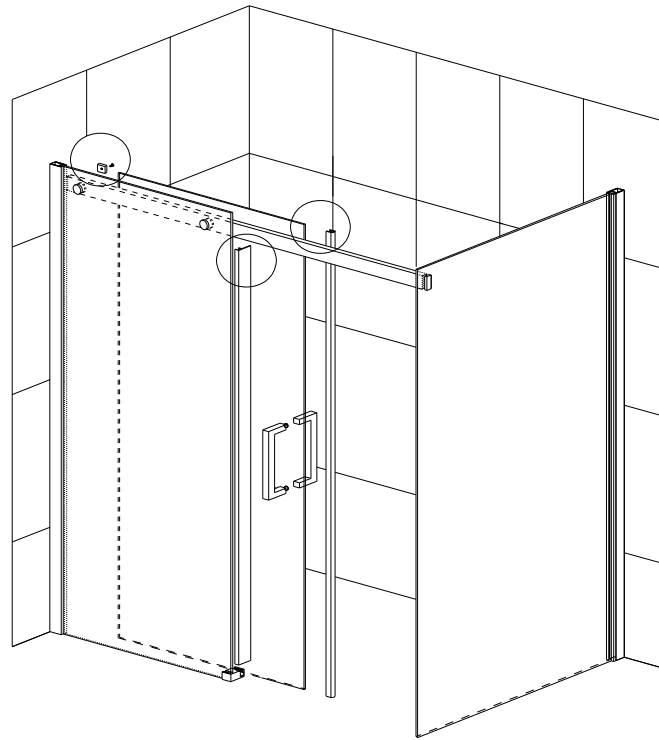

FIG. 11
11) Fix the water proof strips (13) with the front fixed glass door (11), and fix the plastic strip (17) with the sliding door. And then use the M4X10 screws (9) to fix the plastic fixer (8) on the rail. As Fig. 11